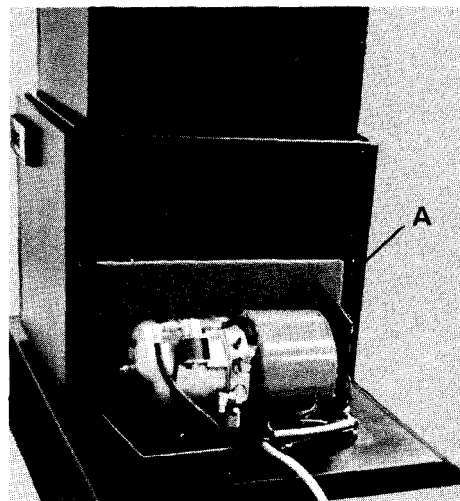

Fig. 11
- 1) Remove rear outer shroud by removing (4) screws, Item A, Fig. 11.
- 2) Replace rear outer shroud by placing shroud in position as shown in Fig. 11, aligning holes, and installing (4) #6 x 3/8" screws, Item A, Fig. 11.